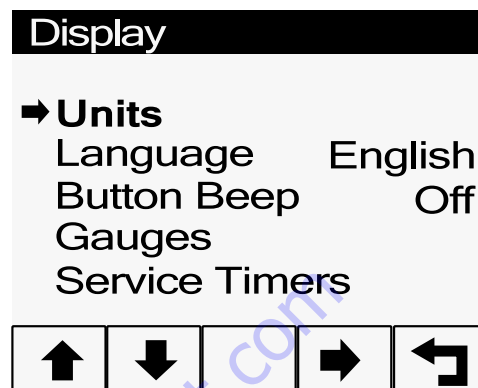

Figure 33. Display Menu
2. The configuration menu has four submenus for different parameters and diagnostic information (Figure 33 to Figure 36).